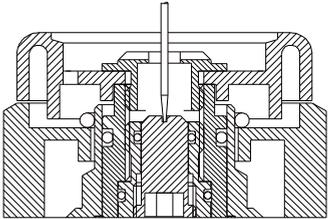

FIG 1
* To adjust the temperature supply ensure that the water is flowing and remove the knob insert from the valve. Using a narrow bladed screwdriver, insert it through the retaining screw until it is located in the slot of the adjusting screw. (fig 1).